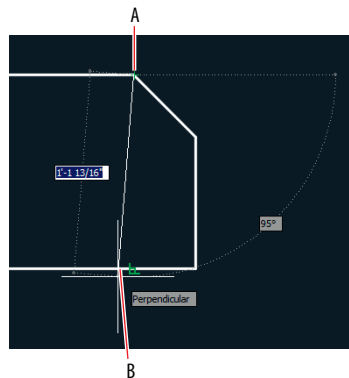

FIGURE 3.12 Drawing a line using running object snaps
6. Toggle off Polar Tracking on the status bar. Click the Line tool on the Draw panel. Move the cursor close to point A in Figure 3.12, and wait for the green endpoint marker to appear. When it does, click to snap the first point of your line precisely to this point.